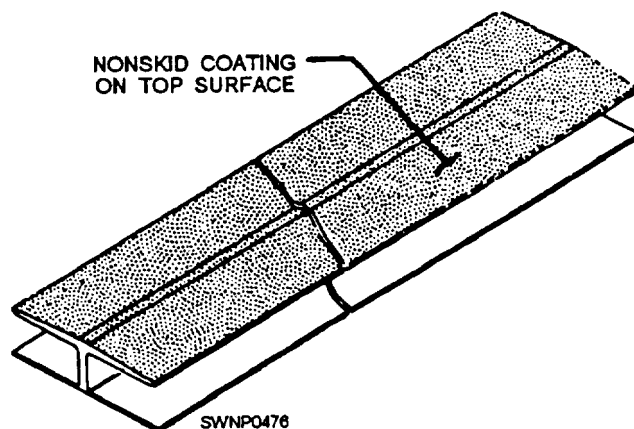

Figure 11-24.—90-degree connector.
10. Install approach aprons at both ends of the runway. Use 90-degree connectors to join the approach aprons to the field matting. (See fig. 11-24.) Connectors